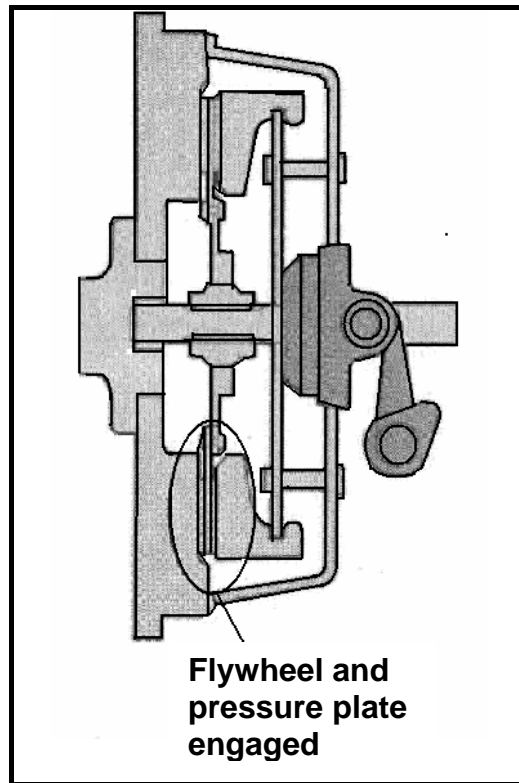

FIGURE 2.3
- 2.3 Mrs Ntuli has an irrigation system that uses a single-plate friction clutch to transmit power from an engine to a pump with an effective diameter of 0,2 m, as shown in FIGURE 2.3. The clutch plate has friction material on both sides with a friction coefficient of 0,35. The total applied force on the pressure plate is 3,4 kN.